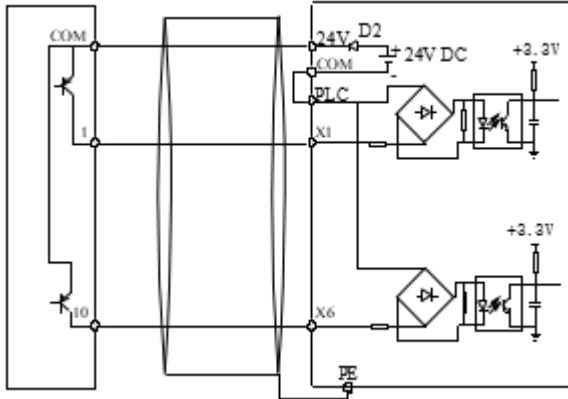

Fig 4-10 Use internal power supply for drain connection
2) Use internal +24V power supply and the external controller uses PNP transistors whose common emitter are connected, as shown in the fig 4-10(Make sure the PLC and 24V terminal is disconnected). The wiring is as shown in fig.4-10